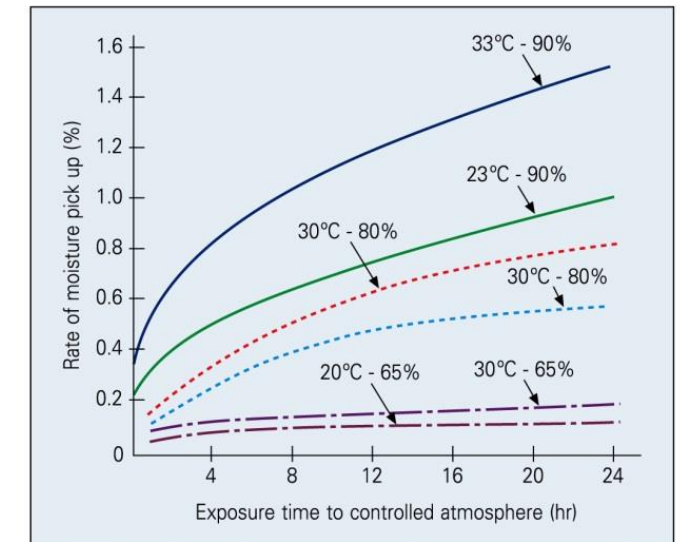

Fig. 4: The moisture pick up vs. several temperatures and levels of humidity of the controlled testing atmosphere.
- Re-dry LB-52 at 300~350°C for 30~60 minutes before use for every four-hour exposure to air without wetting unless otherwise specified. This is the air as shown in Fig.4. Moisture can be a source of hydrogen in weld metal. Fig.4 clearly shows that higher temperatures and humidity accelerate the moisture pick up.